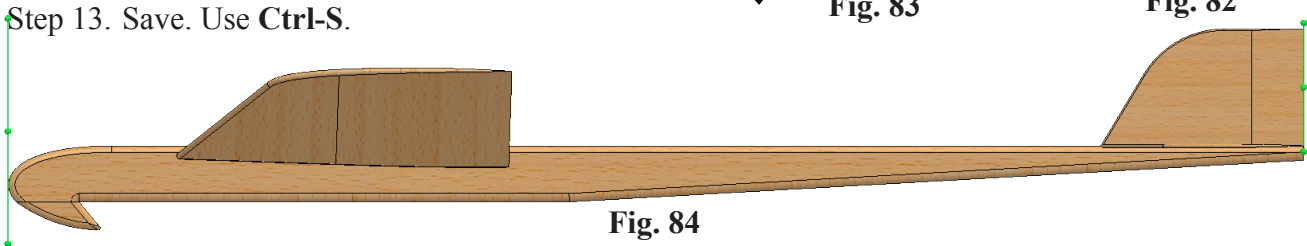

Fig. 84
Step 11. Click **Distance**  in Mate pop-up, **Fig. 83**. Set **distance to 300** and press ENTER. The trailing edge of V Stab should align with rear edge of Fuselage, **Fig. 84**. If positioned in opposite direction, click **Flip Dimension**  in the Mate pop-up. Click Add/Finish Mate  to add Distance mate.